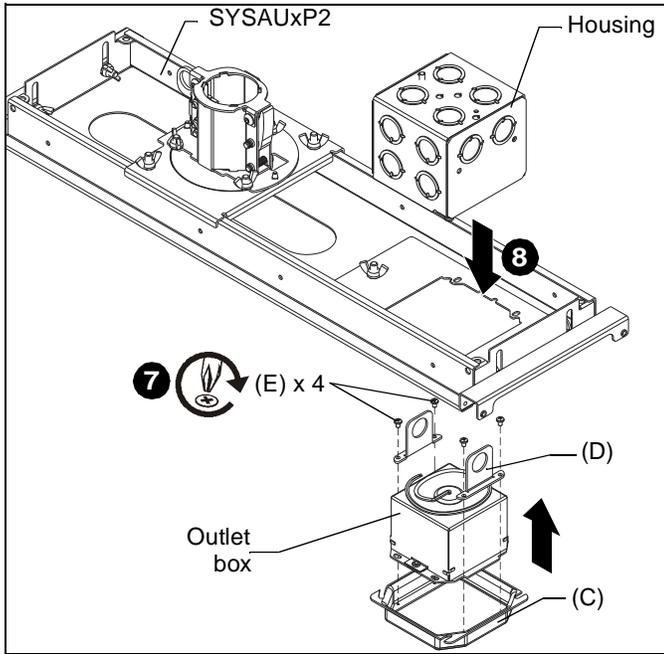
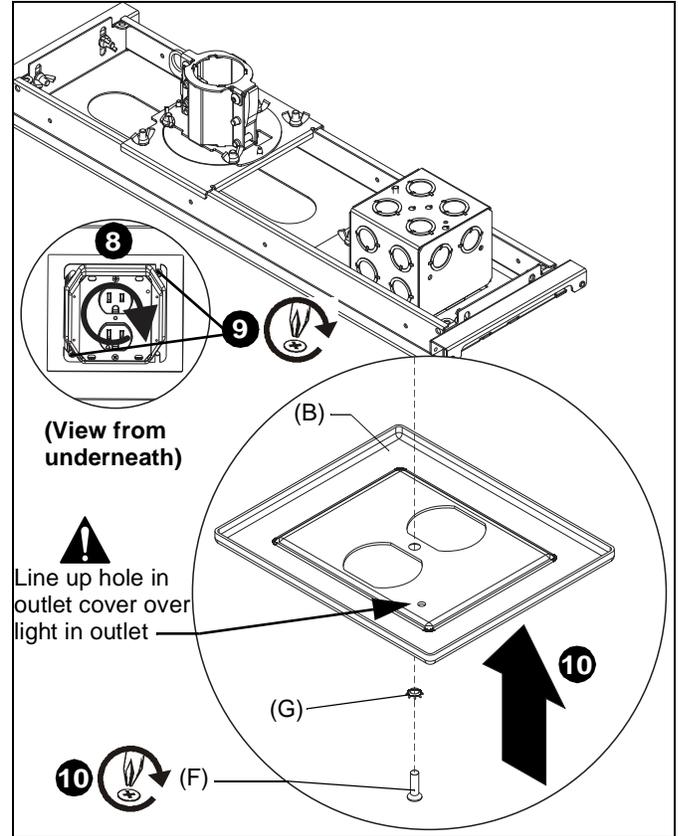

Figure 8
Figure 9
7. Lower outlet box into the mud ring (C) and attach two screw spacers (D) inside the mud ring on either side of outlet box using four 06-32 x 1/4" Phillips pan head screws (E). (See Figure 8)
8. Lower housing from above SYSAU, install outlet box assembly up into housing, and rotate clockwise into place. (See Figure 8) and (See Figure 9)
9. Tighten existing Phillips head screws (in outlet housing) to hold in place. (See Figure 9)
10. Install outlet cover (B) over outlet box using one 6-32 x 1/2" Phillips flat head screw (F) and one #06 lock washer (G). (See Figure 9)